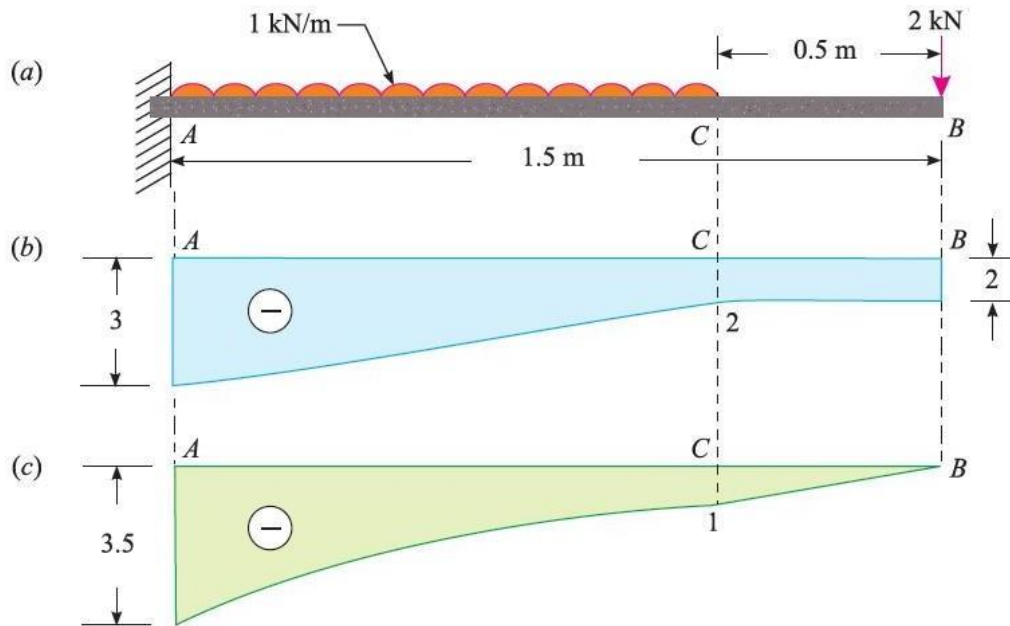

Figure 6.
2. A cantilever beam of 1.5 m span is loaded as shown in Figure 6 (a). Draw the shear force and bending moment diagrams.